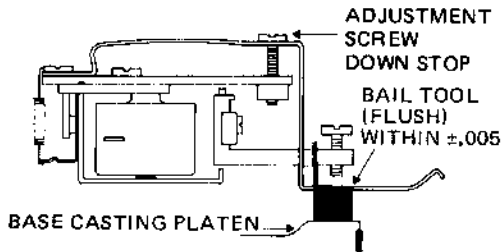

FIGURE 6 HEAD LOAD ACTUATOR DOWN STOP ADJUSTMENT
- d. Adjust down stop so as the top of Head Load Bail is flush with top of tool within $\pm .005$ " at track 76. Reference Figure 6.
- h. If item 'g' is ok, adjust down stop screw (Figure 6) CW until timing is met. Note, not to exceed $\frac{1}{4}$ turn.